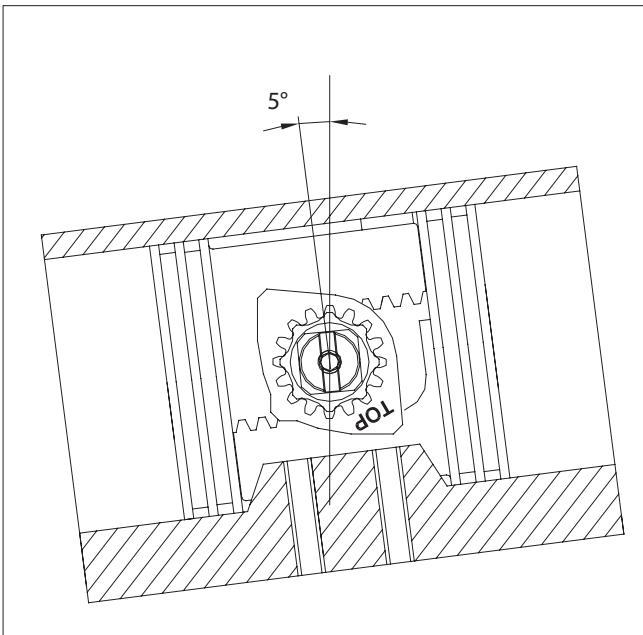

Figure 13.
- H. Temporarily install the position indicator (19) onto the shaft (60) to determine whether the correct stroke is obtained, Verify that the slot in the top of the position indicator (19) will rotate a minimum of 5° beyond the 90° vertical centerline of the actuator body (50) and a minimum of 5° beyond the 0° horizontal centerline of the actuator body as shown in (Figure 13). If the proper stroke is not obtained, remove the pistons and repeat from step 2d. Once the proper stroke is verified, remove the position indicator (19).